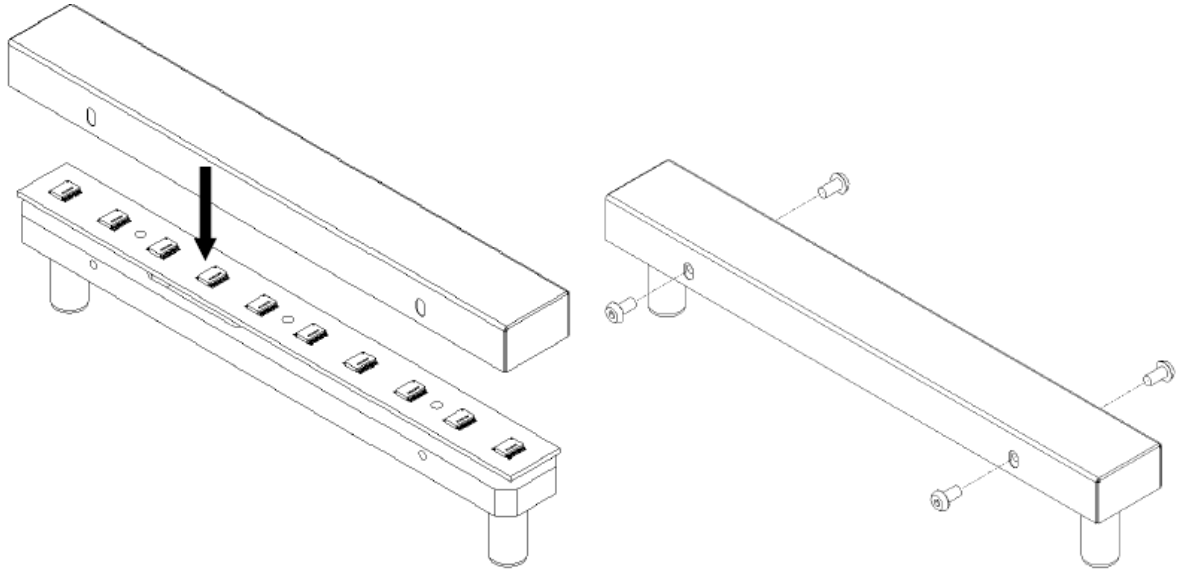

Figure L-6: Removing the Magnetic Encoder Enclosure
5. Remove the Magnetic Encoder Enclosure from the Floating Plate by removing the four M3x6 Socket Button Head Screws (Figure L-6).
2. The compression springs (Figure L-6) should be placed on the outer bosses of the Encoder Housing and the FFC jumper should be fed through the slot on the Encoder Housing.